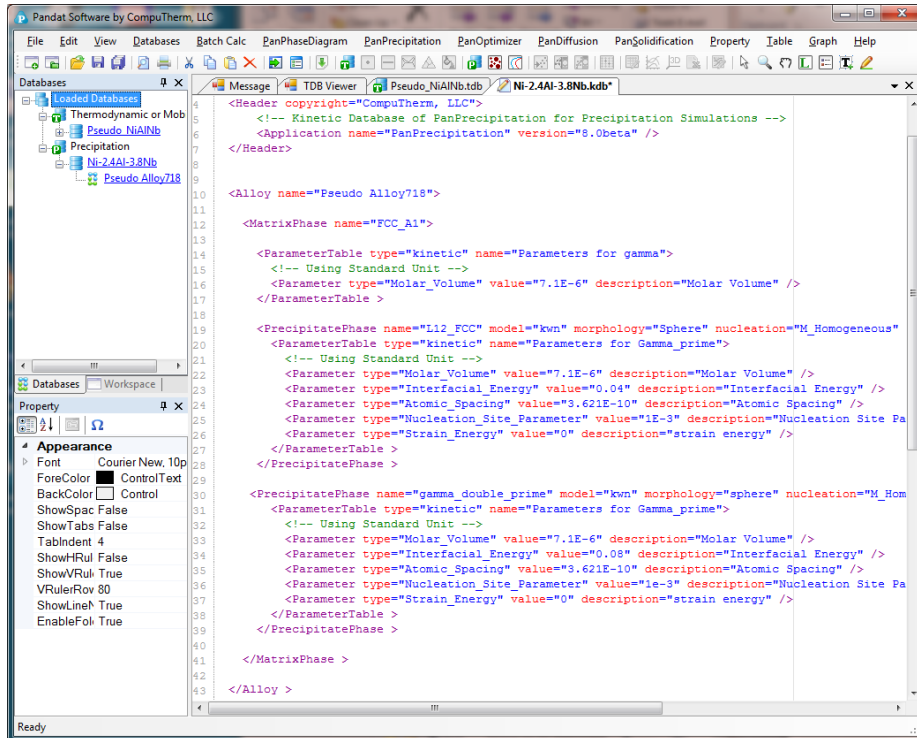

Figure 3.3.2: Open the Ni-2.4Al-3.8Nb.kdb in Pandat workspace to view the kinetic parameters of the two precipitate phases
- Open the Ni-2.4Al-3.8Nb.kdb from Pandat workspace through File->Open File, and view the kinetic parameters as shown in Figure 3.3.2;